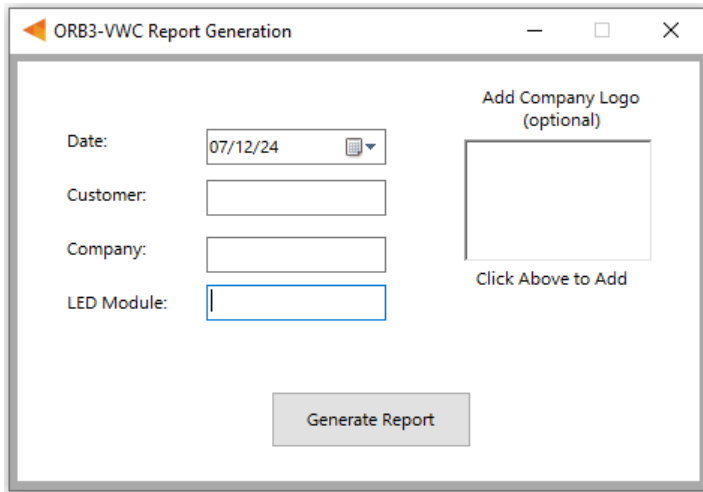

Figure 18: Report Generation window
1. Select **File > Generate Report**, or press **Ctrl+R**, to open the Report Generation Window (shown in Figure 18).